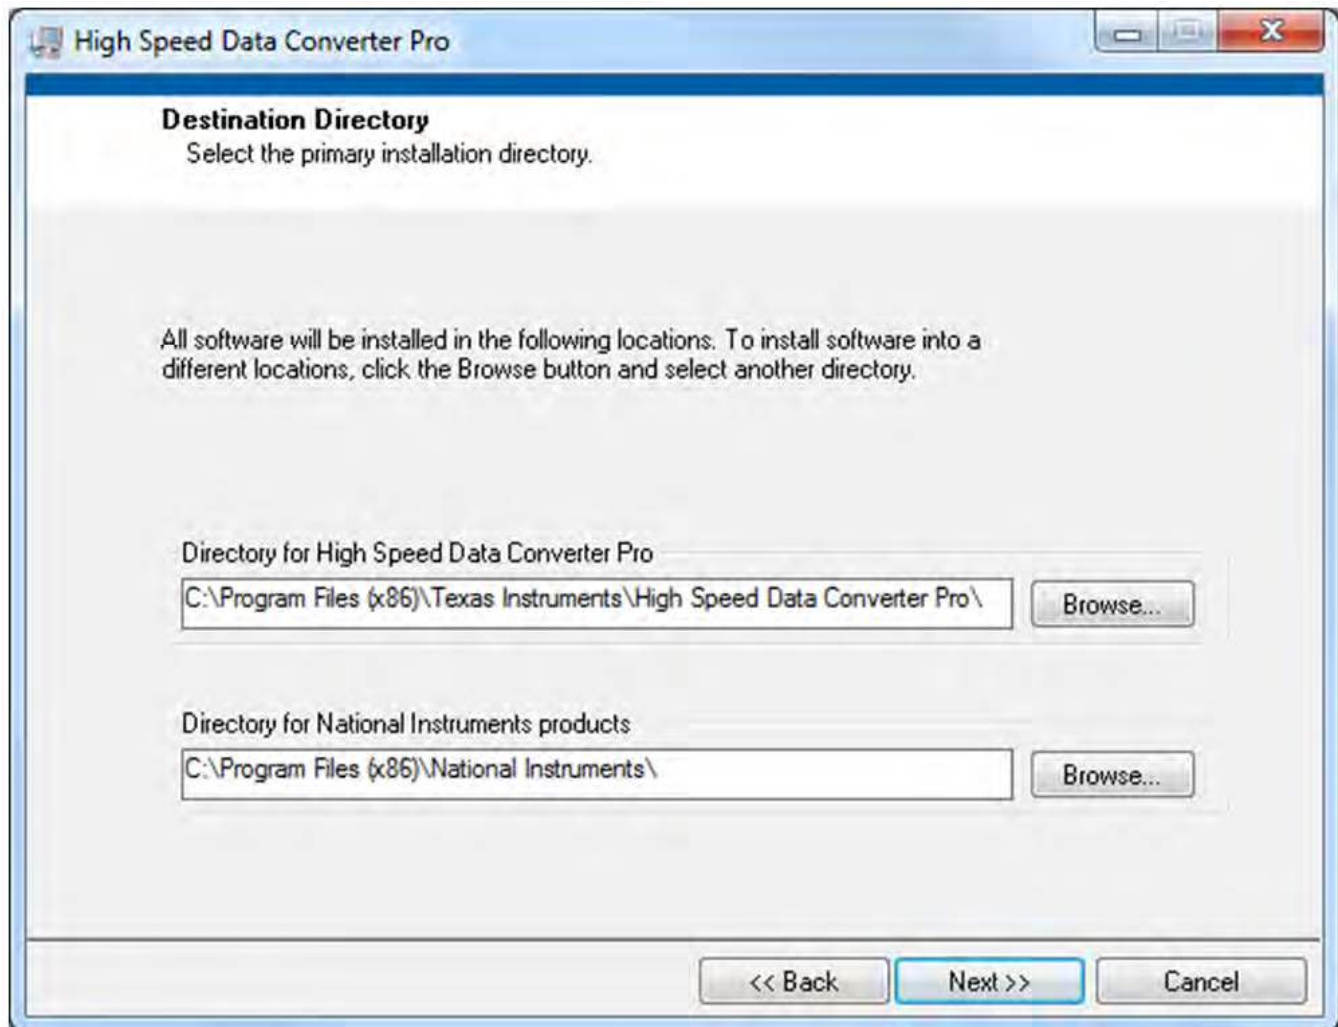

Figure 28. HSDCPro Install (Install Directory)
- Leave the destination directories as the default location, for the TSW1400GUI installation and press the NEXT button as shown in Figure 28.